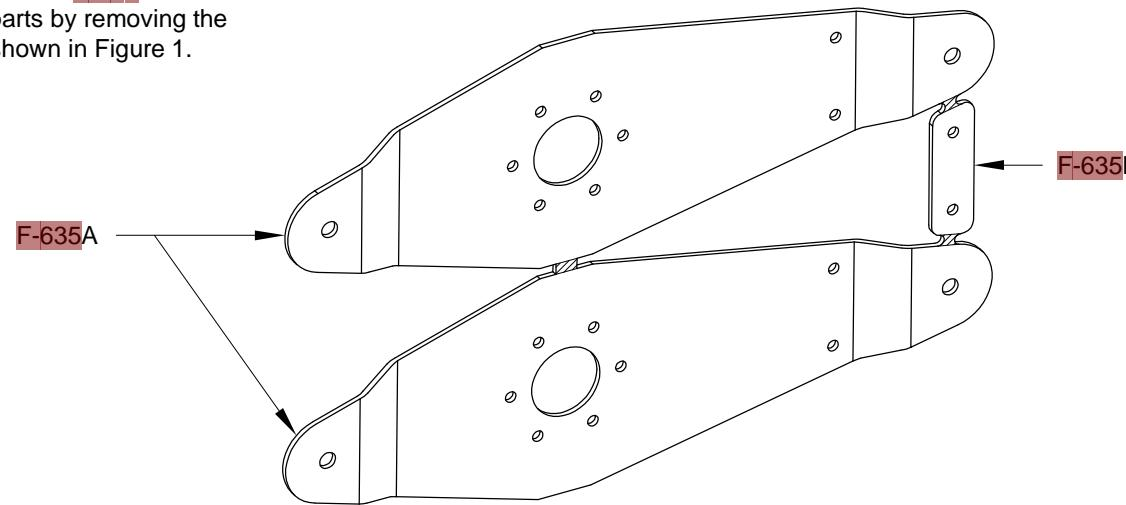

FIGURE 1: SEPARATING THE F-635 BELLCRANK
Step 1: Separate the F-635 Bellcrank into individual parts by removing the shaded areas shown in Figure 1.